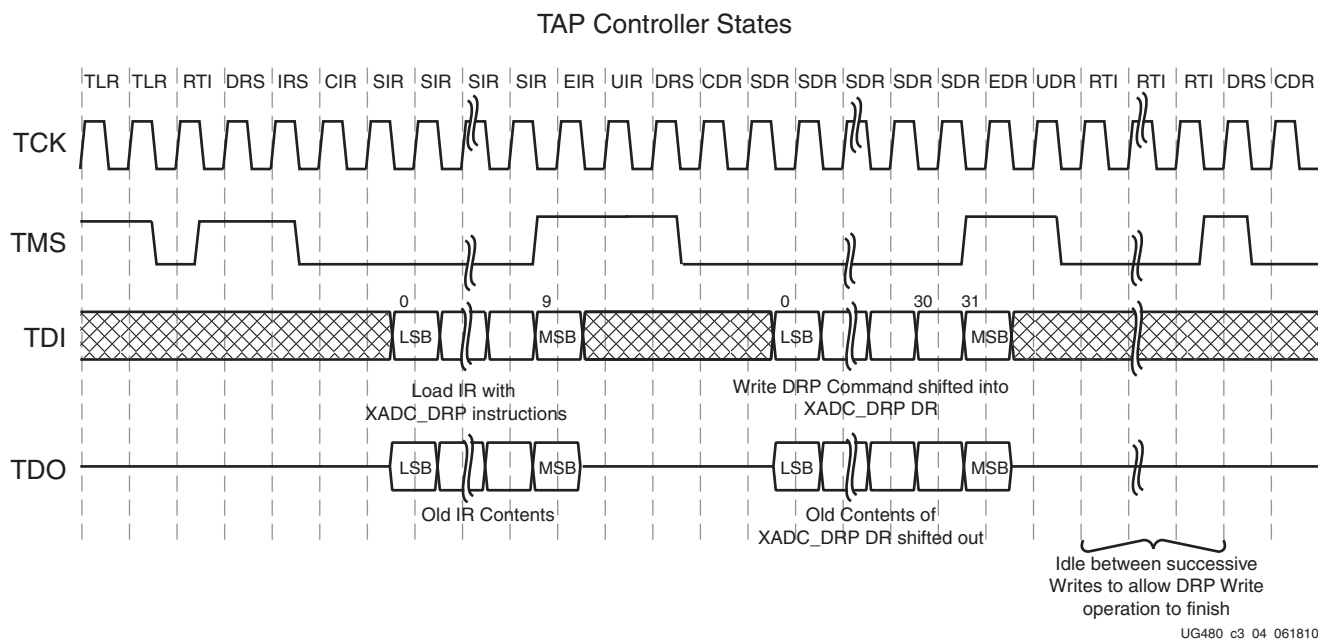

Figure 3-5: XADC JTAG DRP Write
Figure 3-5 shows a timing diagram for a write operation to the XADC DRP through the JTAG TAP. The DRP is accessed through the XADC data register (XADC DR). Before the XADC DR is accessed, the instruction register (IR) must first be loaded with the XADC instruction. The controller is placed in the IR-scan mode, and the XADC instruction is shifted to the IR.
If multiple writes to the XADC DR are occurring, it might be necessary to idle the TAP controller for several TCK cycles by adding RTI states before advancing to the next write operation (see Figure 3-5). If the F_{DRP_DCLK} or F_{JTAG_TCK} are constrained to a fixed frequency, then Equation 3-1 can be used to determine the number of RTI wait cycles required between JTAG transactions. For example, when $F_{DRP_DCLK} = 20$ MHz and $F_{JTAG_TCK} = 25$ MHz, 10 RTI states are required.